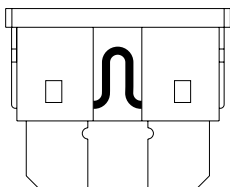

FIGURE 9. WORKING FUSE
If a fuse must be replaced (see figures 9 and 10), use only the specified amp fuse. For more information on replacing a fuse, see XII. "Care and Maintenance."
- Examine the 5-amp charger fuse. If the fuse is blown, the batteries will not charge. See figures 9 and 10.